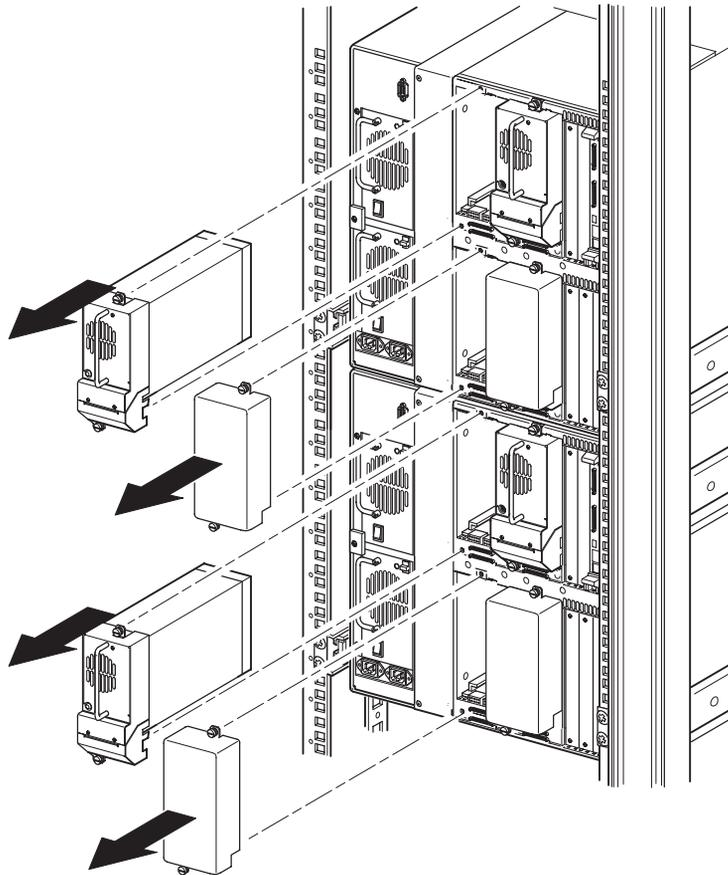

Figure 11: Accessing drive bays 1 and 3 (10U models)
2. Remove the blank panels or drive shoe assembly 1 and 3 from the bays adjacent to the PTM cover plate openings of each library (see Figure 11 on page 32).